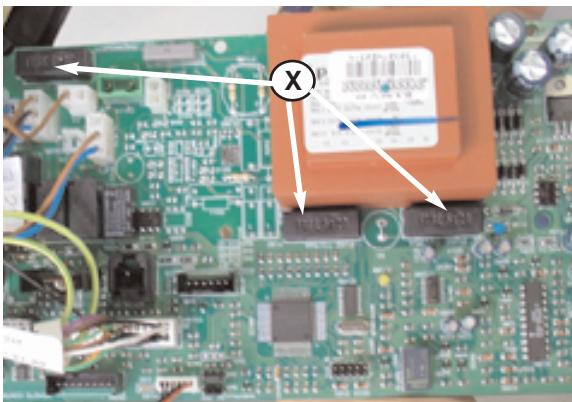

Fig. 99
2. Remove the fuses “**X**” (see Fig. 99)